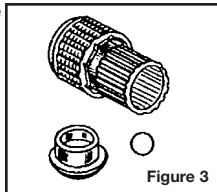

Figure 3
3. Remove press cap (see Fig. 3) to gain access to the mixed IRM®.
5. If the mixed mass of IRM® does not appear in the press cap (see fig. 3) then either replace the press cap and mull for 5 seconds or insert a small ended plugger into the cap and remove the mixed mass.